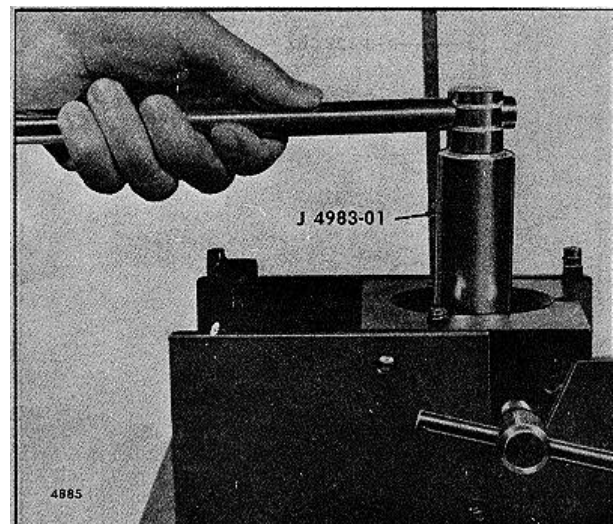

FIG. 20 - Removing Injector Nut using Tool J 4983-01
4. Invert the fixture and, using socket J 4983-01, loosen the nut on the injector body (Fig. 20).